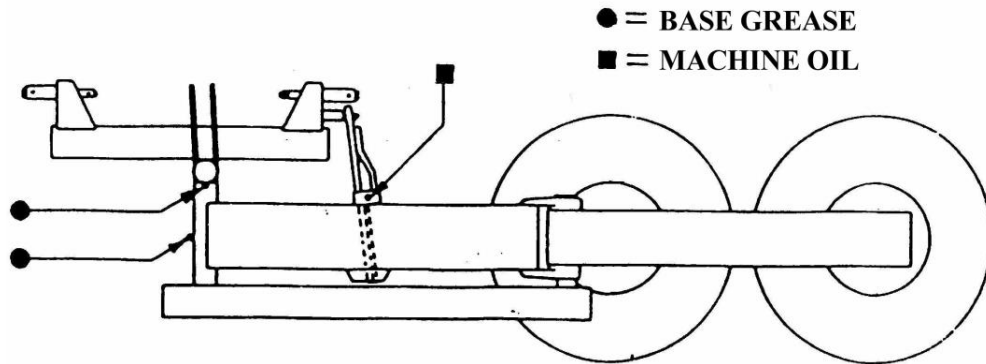

Fig. 10. Lubricating points.
- During the operational use the mower should be lubricated every day (the lubricating points are shown in Fig.10.)